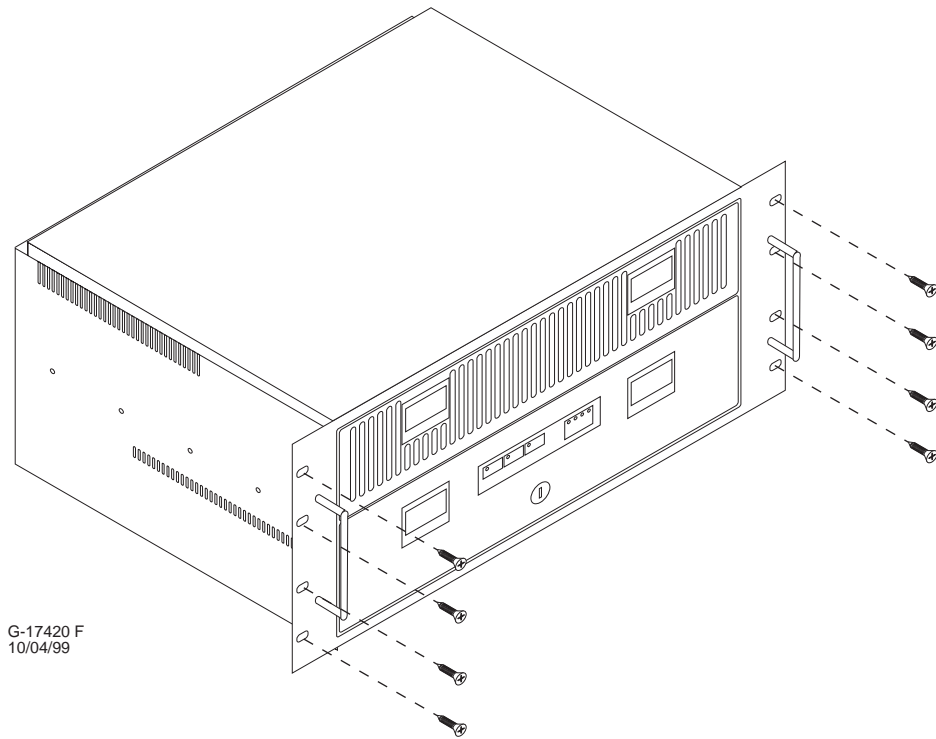

Figure 3-2 Installing the chassis
3. Secure the Controller to the front of the rack using the eight provided mounting screws. See Figure 3-2, which shows the screw holes on each side of the chassis (front).